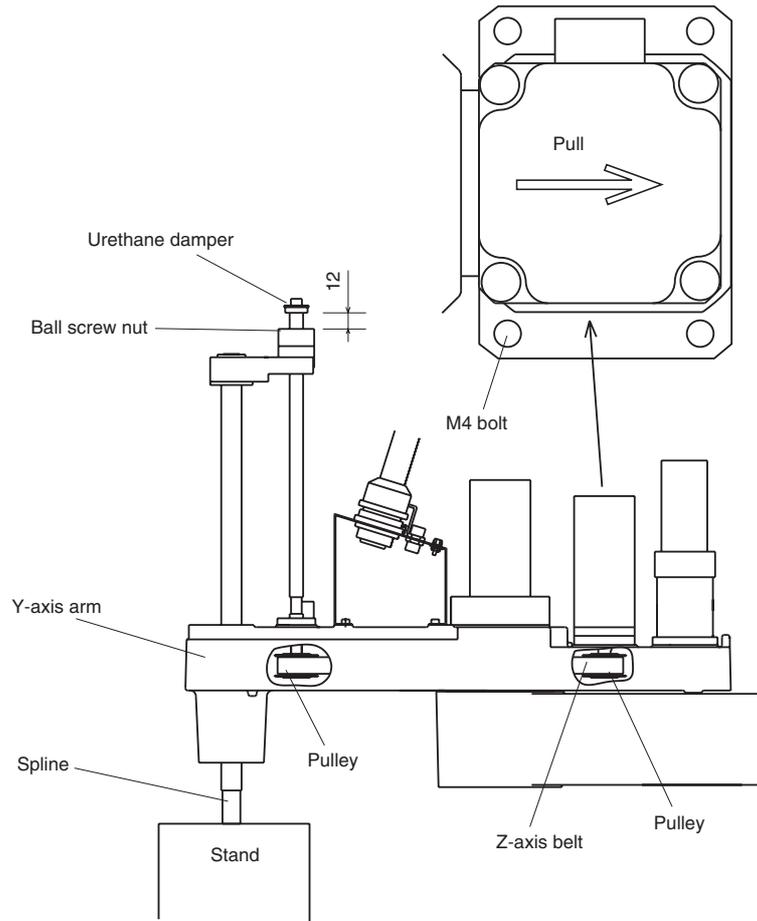

Fig. 4-22
- 10) Adjust the height of the support stand so that the distance between the urethane damper and the upper face of the ball screw nut is 12mm as shown in Fig. 4-22. Then, fit the Z-axis belt on the Z-axis motor pulley.